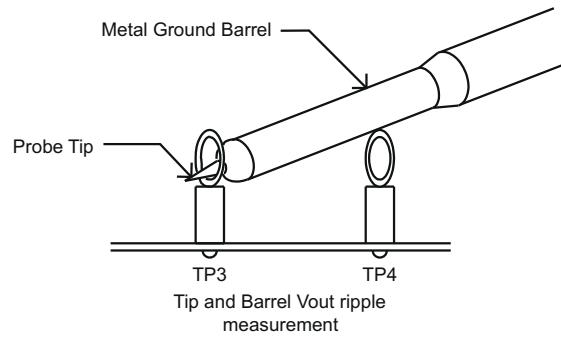

Figure 5-2. Output Ripple Measurement – Tip and Barrel using TP3 and TP4
2. Connect oscilloscope probe with exposed metal barrel to TP3 and TP4 per Figure 5-2.